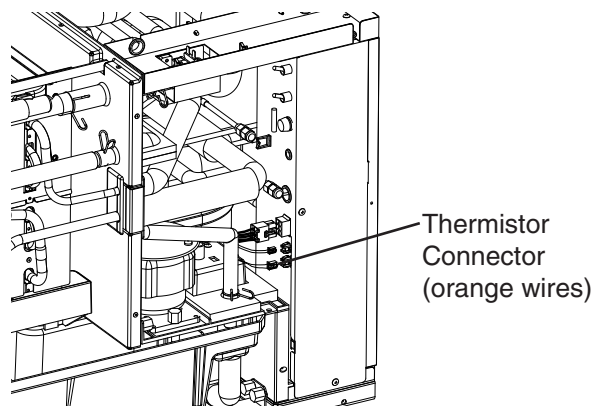

Fig. 11
- 4) Disconnect the thermistor (orange wires) at the 2-pin connector on the control box. See Fig. 11.